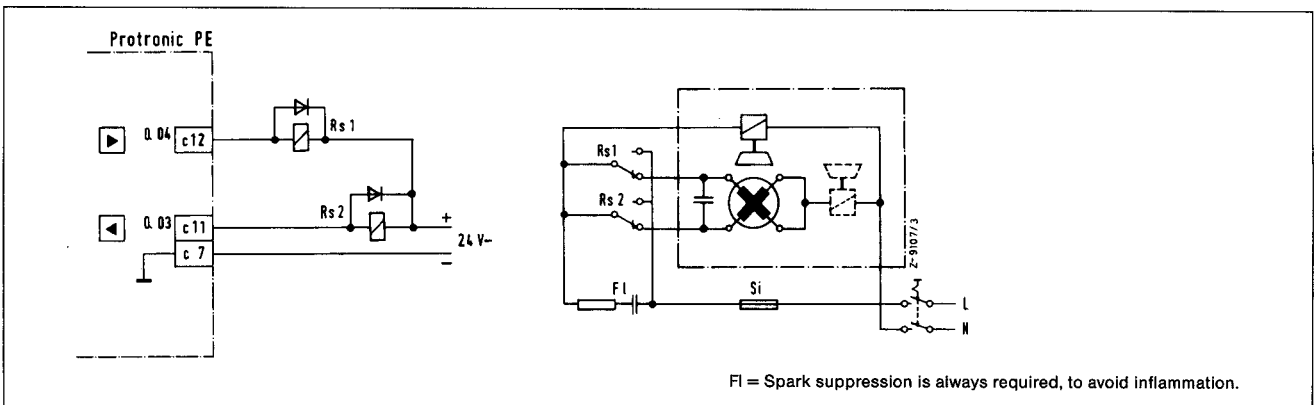

Fig. A19 Connection of a servomotor via relay
- Fig. A19** Connecting a positioning motor via relay